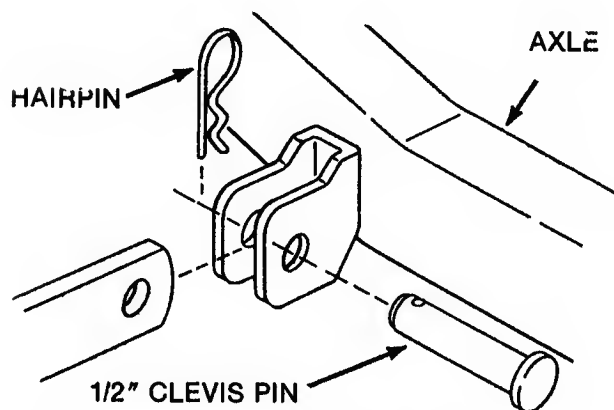

FIGURE 19 - FRONT LIFT ARM
4. Pull front lift arms up into position between the implement attaching brackets on back of front axle and secure at each side with a large clevis pin and large hairpin. (Fig. 19).